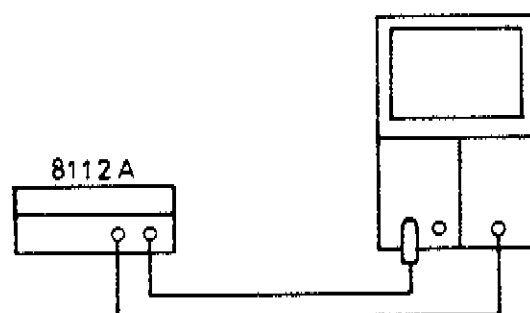

Figure 4-4. Equipment setup for WID performance test
1. Connect the equipment as shown in Fig. 4-4.